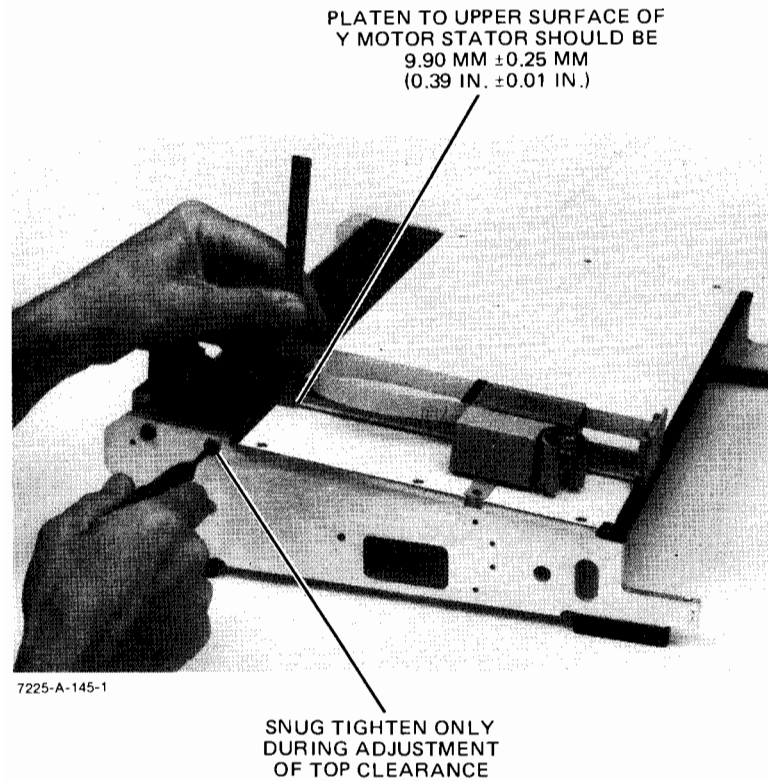

Figure 6-2. Top of Table
- e. With the scale placed near the top edge of the platen, raise or lower the X stator until the upper surface of the stator is 9.90 mm $\pm$ 0.25 mm (0.39 in. $\pm$ 0.01 in.) above the platen. See Figure 6-2. Snug tighten the hex cup screw nearest the platen.